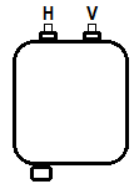

Figure 8
(DLB 5 Only) If used in a network link to a DLB 5-15b or DLB 5-15ac, install the single omni antenna on the antenna V (vertical) connector (see Figure 8), and the metal dust cap on the H (horizontal) antenna connector. If used in a network link with other DLB 5s, install omni antennas on both antenna connectors.
2. (DLB 5) Install a 251550 omni antenna on the V antenna connector (refer back to Figure 8) and a 259144-dust cap on the H antenna connector if communicating with a DLB 5-15b or DLB 5-15ac. Install two 251550 on the DLB 5 if communicating with another DLB 5.